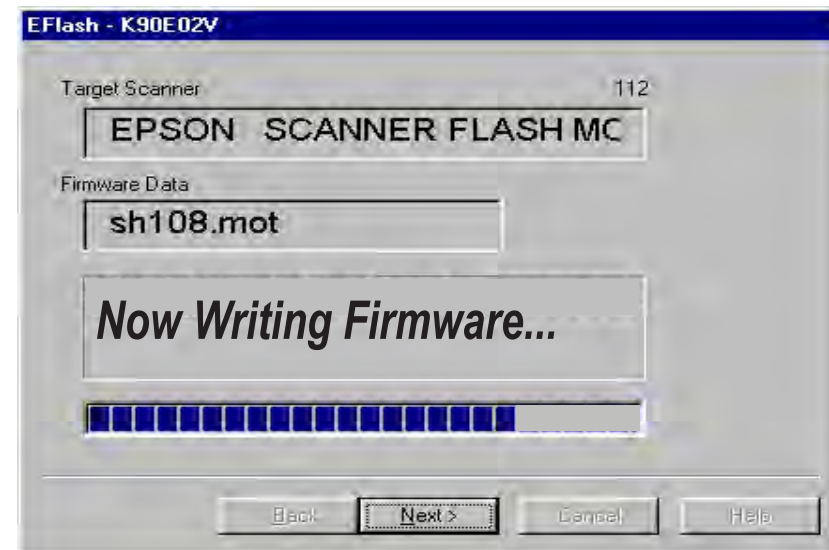

Figure 5-8.
5). Click "OK" to start writing the firmware. Writing status is indicated by the progress bar as shown in Figure 5-8 below. When writing process is complete, "REBOOT SCANNER!" message will appear on the screen again.
2. Select the SCSI ID 9 with the rotary switch as shown in Figure 5-8 (factory default is 2). ID 9 is not indicated on the switch panel; however, when turning the switch counterclockwise from 0, the next ID is 9.